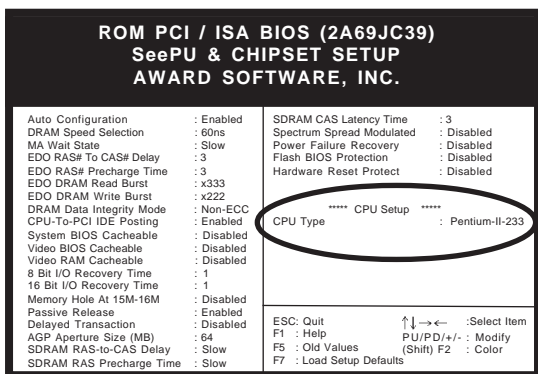

Figure 2-5
2. Move the cursor to SeePU & Chipset Setup menu and press Enter. Find the CPU Setup commands at the lower right hand part of the BIOS screen (Figure 2-5) Commands for operating the cursor in BIOS are found at the bottom of the BIOS screen.